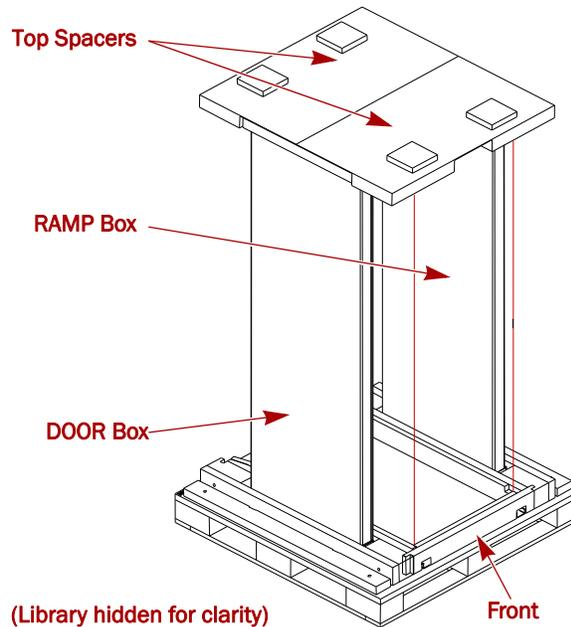

Figure B-7: RAMP and DOOR Box Locations
1. Add the inner packaging (Figure B-7).